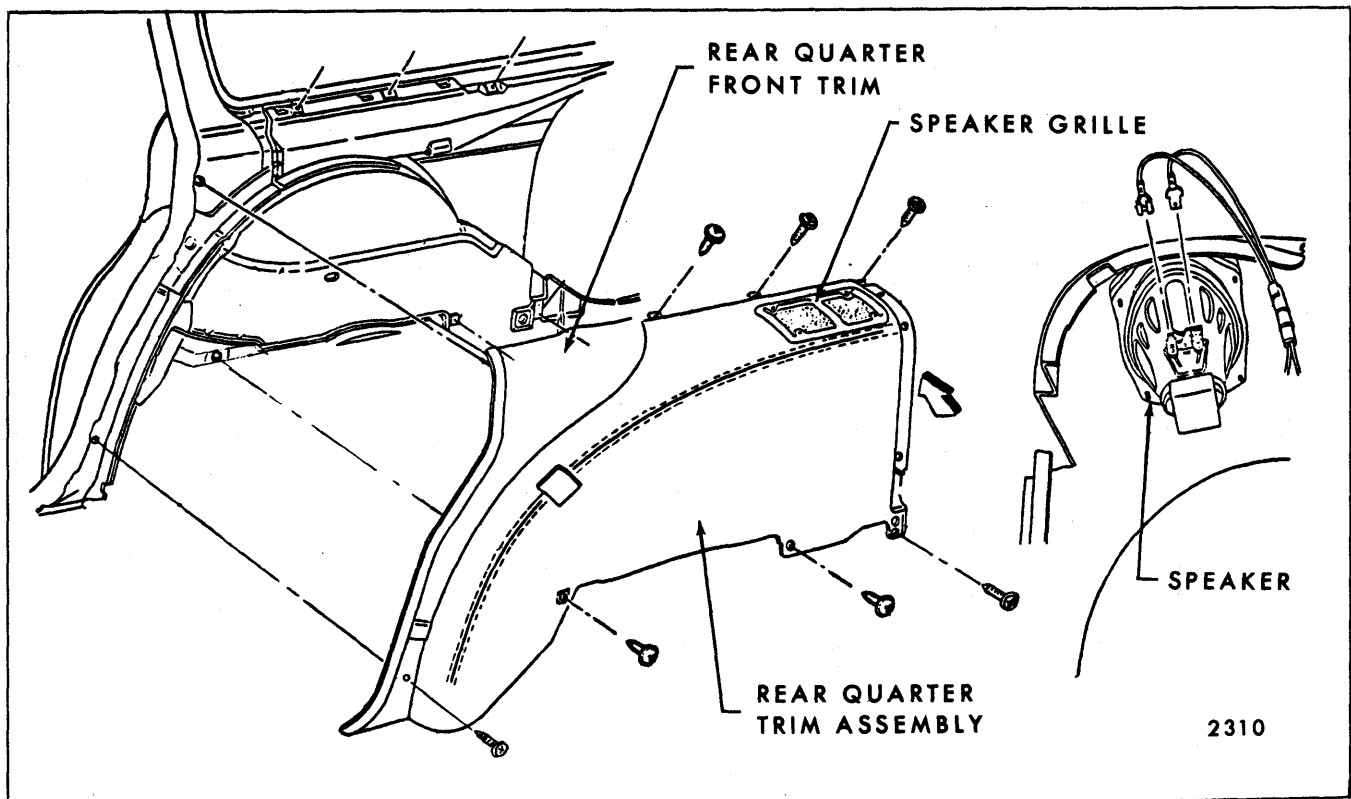

Fig. 8-17—Rear Quarter Trim Panel Right Side - "B" Station Wagons
3. Remove all screws securing trim panel to rear quarter inner panel (Fig. 8-17).
4. With a suitable flat-bladed tool, carefully disengage trim retainers from rear quarter inner panel along leading edge of rear body lock pillar (on front edge of rear quarter front trim assembly). (Fig. 8-17).